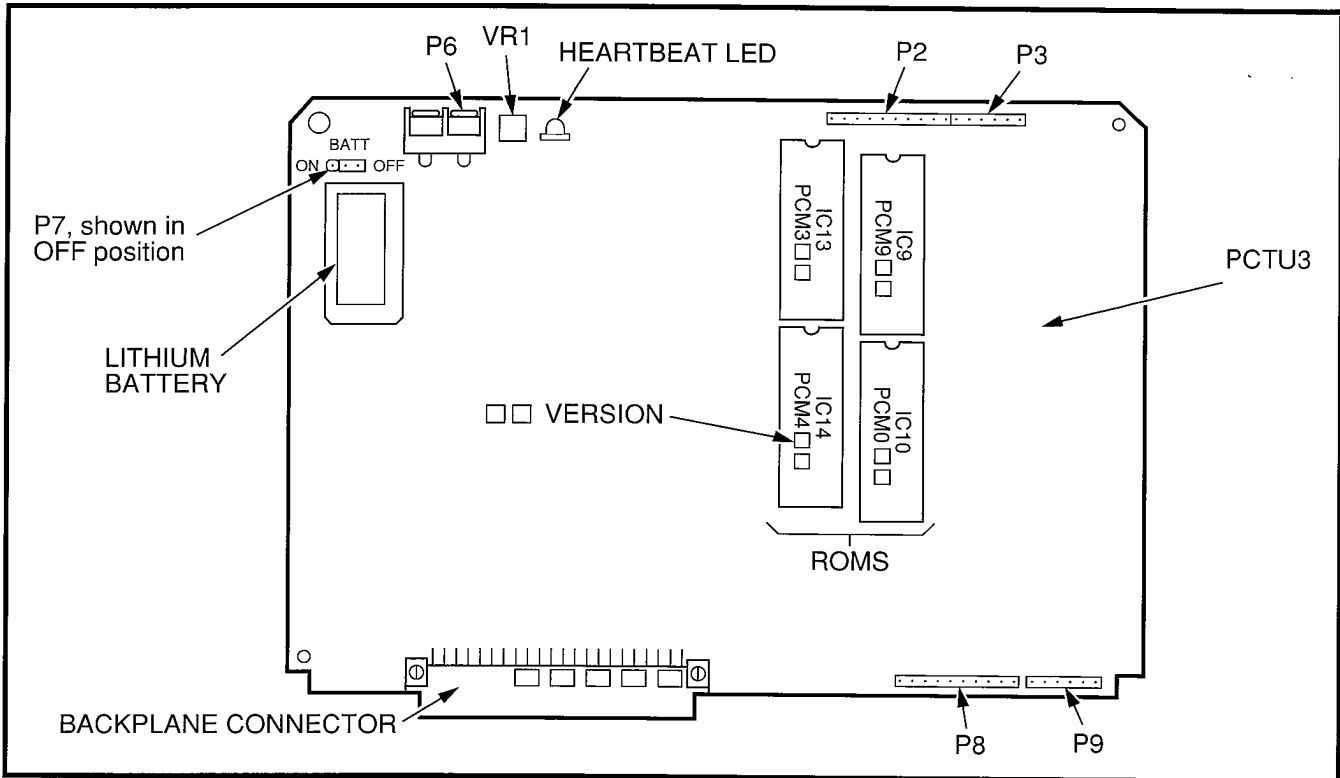

FIGURE 6-15—PCTU3 CONTROLS, INDICATORS, AND INTERFACE CONNECTOR
14.01 For PCTU3 (Figure 6-15) installation instructions, see Paragraph 3. The PCTU3 PCB has the same station and CO line capacity and performs the same function as the PCTU1 and PCTU2: It provides centralized control for the KSU. PCTU3 is intended for use with DK56 and DK96; it can also be used with DK24.